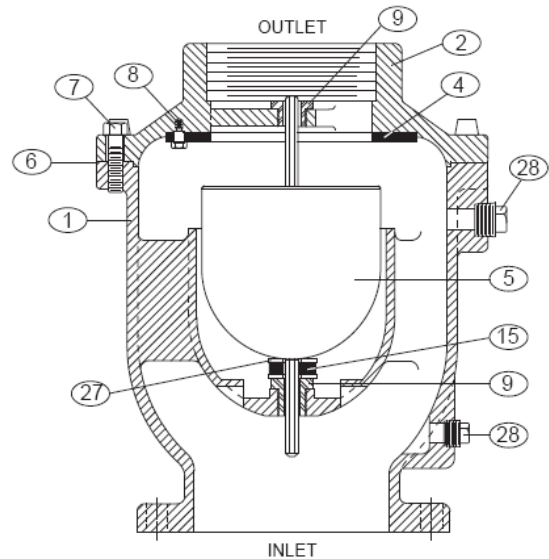

Figure 2. Air/Vacuum Valve Assembly
The standard Air/Vacuum Valve body and cover are cast iron. See specific Materials List submitted for the order if other than standard cast iron construction. The internal metal components are stainless steel. The float (5) is the only moving part assuring long life with minimal maintenance. The general details of construction are illustrated in Figure 2. The body (1) is flanged for connection to the pipeline. The resilient seat (4) is retained in the cast cover (2). An optional hood is available.
The valve can be disassembled without removing it from the pipeline. Or for convenience, the valve can be removed from the line. All work on the valve should be performed by a skilled mechanic with proper tools. Refer to Figure 2.